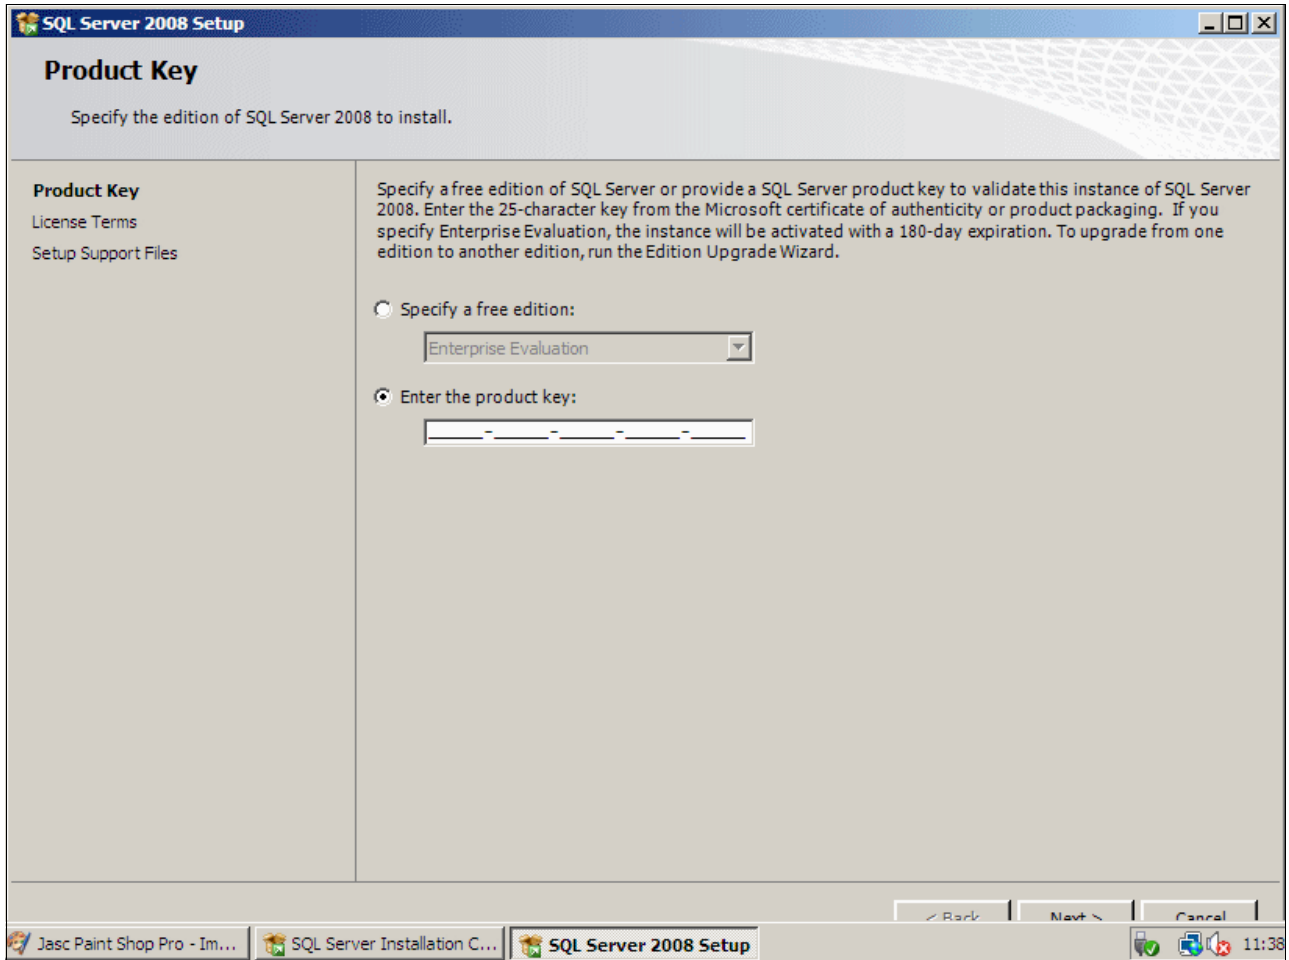

Figure 6-20 SQL Server 2008 license key request window
5. (Optional) Type your 25-character product key in the “Product Key” panel (Figure 6-20) to avoid activation problems during installation. Click **Next**.